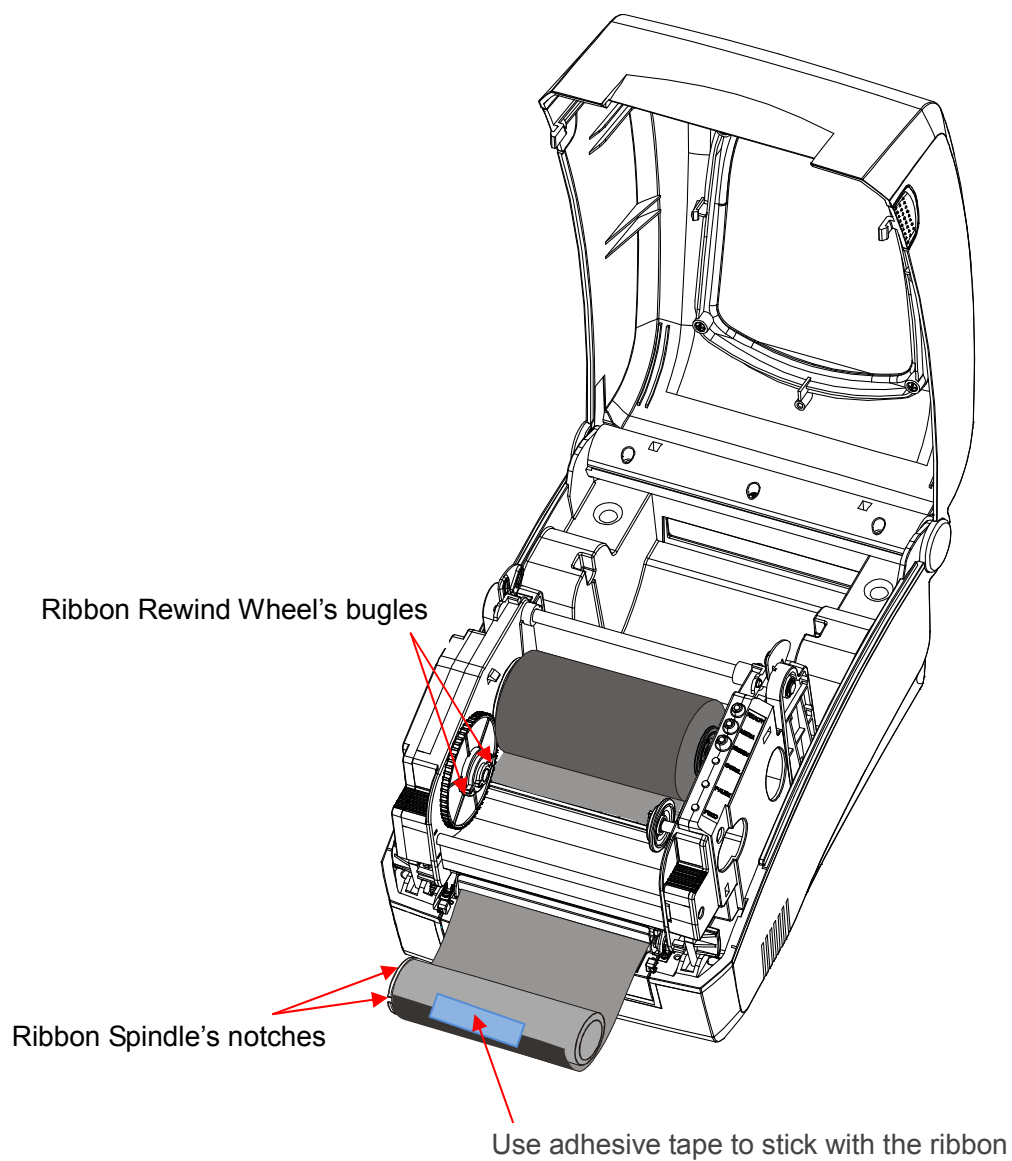

Figure 5-5
8. Wrap the end of the ribbon around the ribbon take up core. (see Figure 5-5)